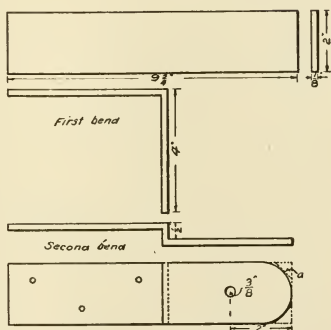

FIG. 206.—IRONS FOR WAGON JACK.
1. Take two pieces of iron of the dimensions given in Fig. 206, and lay off a distance of 4'' on each.